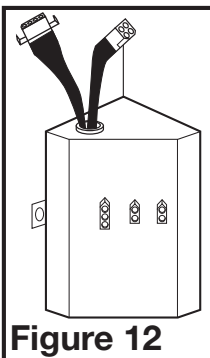

Figure 12
- 3b. **MOTION SENSING MODELS:** Plug the fan's 2 pin and 3 pin quick connect motor cords into the corresponding receptacle located on the wire compartment cover. These cords will only fit one way into the receptacles (**Figure 12**).